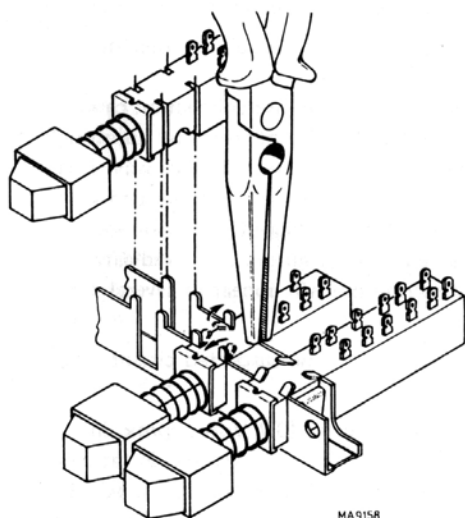

Fig. 6.6. Replacing a switch-segment of a push-button set.
To remove a pushbutton switch, the hexagon screws that secure it to the front panel must be removed. To replace one switch-section of a pushbutton set, refer to Fig. 6.6.
- Straighten the 4 retaining lugs of the relevant switch as shown in Fig. 6.6.